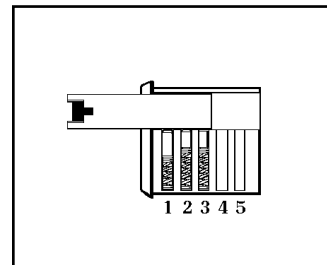

Fig. 3
4. Reverse the direction of the cylinder body and push the follower inward as shown in Fig. 3, so that the back tip is clear of the fourth and fifth chambers. Load these last top pin chambers as previously described.